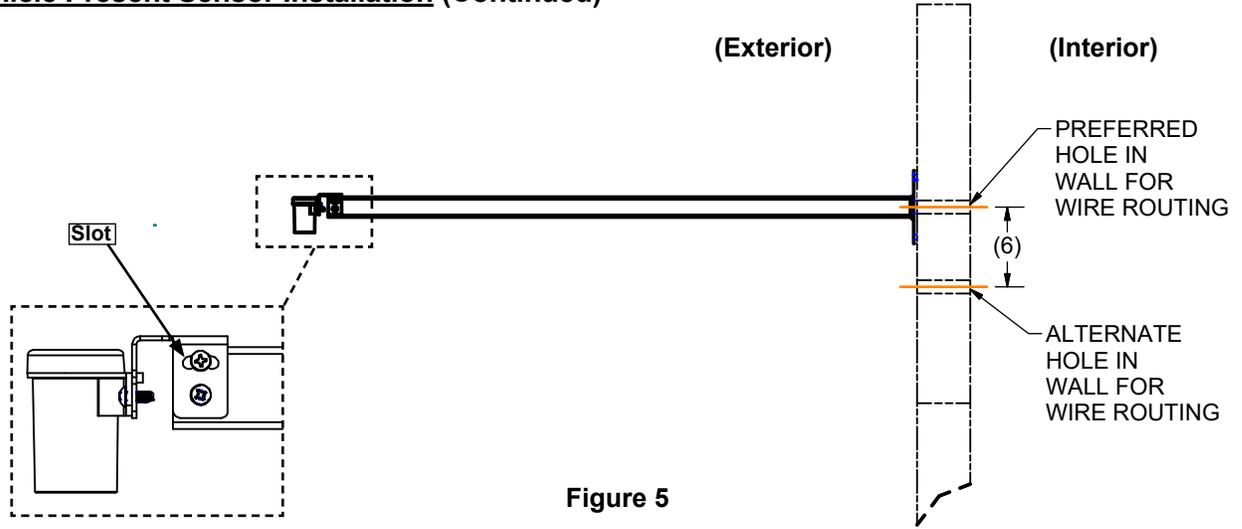

Figure 5
**Note:** Seal the hole between the outside mounting bracket and the inside wall. A junction box is recommended to conceal the hole where the cable enters the interior wall. See **Figure 5**.
4. If the sensor is mounted near an awning, shelter or dock seal, ensure sensor is not detecting this obstruction. If so, the sensor can be rotated away from the obstruction using the slots in the sensor mount. See **Figure 5**.